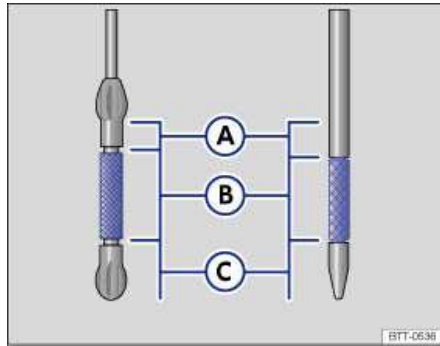
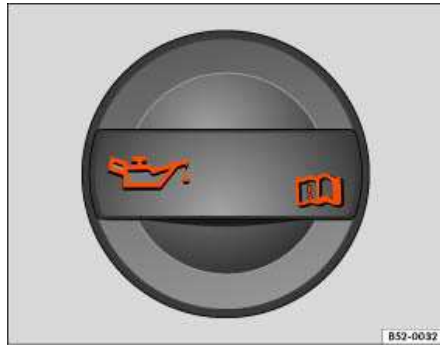

Fig. 139 Oil dipstick with engine oil level marks.
Fig. 140 In the engine compartment: Engine oil filler cap.
4. Find the oil filler opening and the dipstick. You can identify these by the **e** symbol on the engine oil filler cap ⇒ fig. 140 and the colored handle on the dipstick. If you are not sure where the cap and the dipstick are located, see your authorized Volkswagen dealer or authorized Volkswagen Service Facility for assistance.
7. Remove the dipstick again and read the oil level on the dipstick ⇒ fig. 139 as described below:
- (A): **Do not** add any oil ⇒ ⚠. Continue with step 15.
- (B): Oil may be added (about 1 pint / 0.5 liter). Continue with step 8 or step 15.
- (C): **You must** add oil (about 1 quart / 1.0 liter). Continue with step 8.
9. Remove the cap on the engine oil filler opening ⇒ fig. 140.
13. After adding oil, the level must at least be in the center of the ⇒ fig. 139 (B) area, but never above (A) ⇒ ⚠.